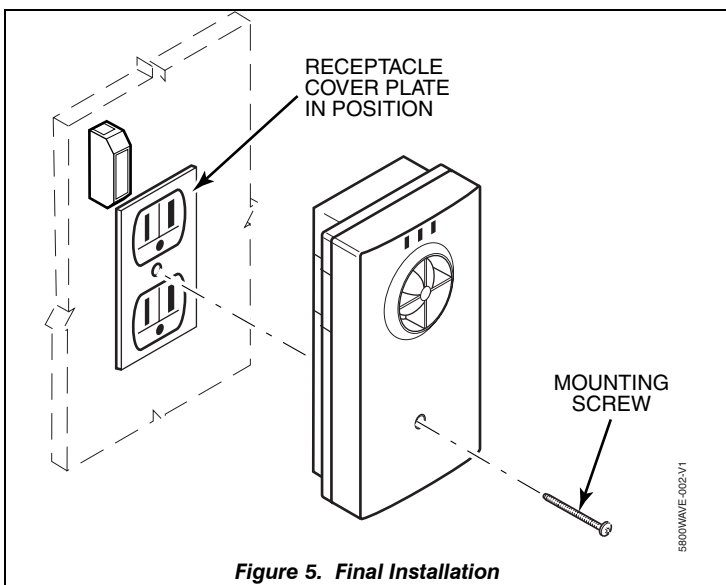

Figure 5. Final Installation
1. Remove the screw that secures the cover plate to the duplex receptacle. Leave the cover plate in place on the receptacle as shown in Figure 5.
3. Insert the hold down screw (supplied) in the 5800WAVE mounting hole and secure the case to the receptacle as shown in Figure 5.